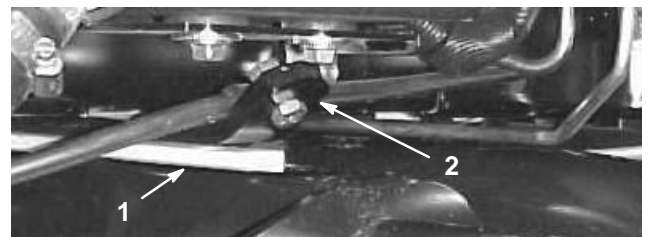
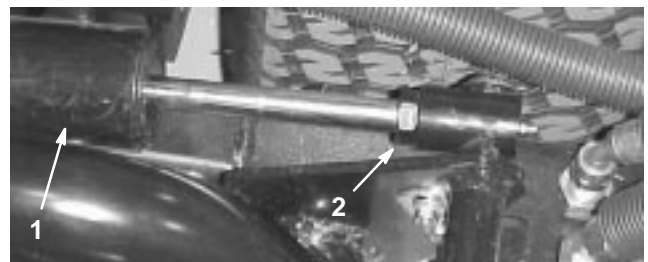

Figure 13
Figure 14
3. Start the engine, raise the decks, and check to make sure that the clearance between the wear strap on the top of the rear cutting unit wear bar and the bumper strap is 0.02–0.10 in. (0.51–2.54 mm) (Fig. 13). If the clearance is not in this range, adjust the rear cylinder to attain clearance. To adjust the cylinder, lower the cutting units and back off the jam nut on the cylinder (Fig. 14). Grasp the cylinder rod close to the nut with a pliers and rag and rotate the rod. Raise the cutting units and check the clearance. Repeat the procedure if required. Tighten the clevis jam nut.